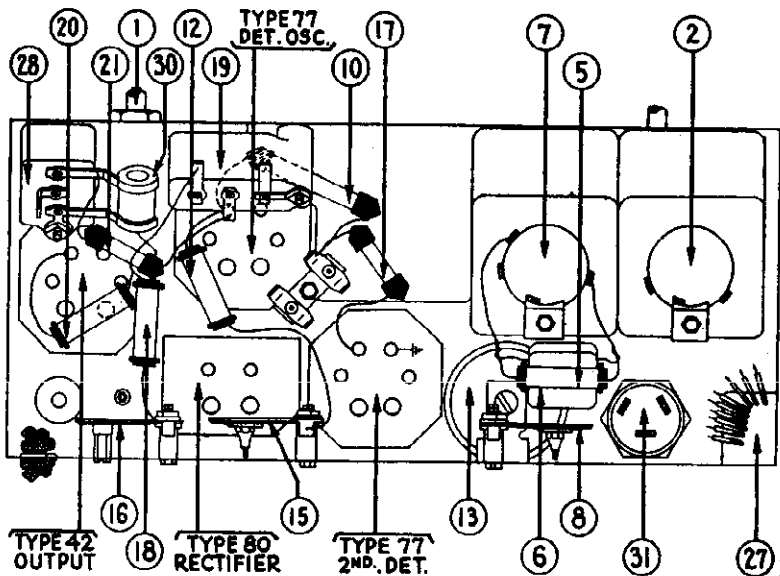

Fig. 4—Base View
*Does not show in Fig. 4.
(1)—I. F. (Intermediate Frequency)—Remove grid clip from cap on 6A7 tube and connect antenna lead from signal generator to cap of tube. Connect ground lead to ground post on set. Turn on set and signal generator; set wave switch of latter to 460 K. C. (the I. F. of Model 66) and dial of set at 540, wave band switch to left. Adjust each of the four I. F. compensating condensers ⑮, ⑰, ⑲ and ⑳ in turn so that maximum reading is obtained in the output meter. If the meter reading goes off scale, adjust the attenuator on the signal generator so as to get a lower reading. These I. F. condensers (visible in Fig. 4) are adjusted by inserting the
(2)—WAVE TRAP—Replace grid clip on cap of 6A7 tube and connect antenna lead from signal generator to antenna post on set. Set signal generator at 460 K. C. and adjust wave trap ① so as to get MINIMUM reading in output meter.
(3)—ANT. and OSC. H. F.—These adjustments ⑦ and ⑪ are located on top of the tuning condenser assembly at right (facing front of set) and adjusted from above. The "ANT" ⑦ is nearest front of set. Set signal generator at 1700 and dial of set at 1700 and adjust these two condensers to get maximum output meter reading.
(4)—OSC. L. F.—This condenser ⑬ is located underneath chassis (see Fig. 4) and is reached from underneath. Set dial of set and signal generator switch at 600, and adjust for maximum reading.